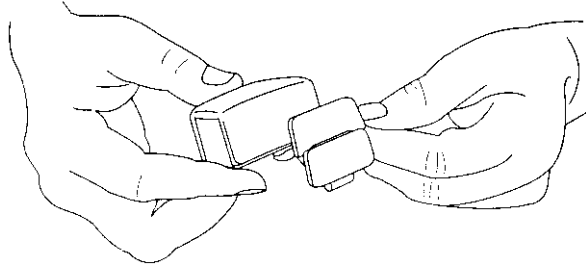

Figure 5-8. Sliding the Ring Scanner into the Mount
- c. Slide the ring scanner backwards into the mount (Figure 5-8).